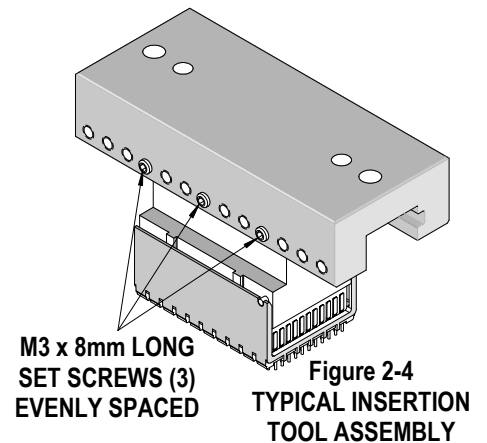

Figure 2-4
3. Now tighten the M3 set screws against the modules with two (2) set screws evenly spaced on a 10mm header insertion module and at least three (3) set screws evenly spaced on a 25mm header insertion module. Figure 2-4 shows a typical completed assembly.